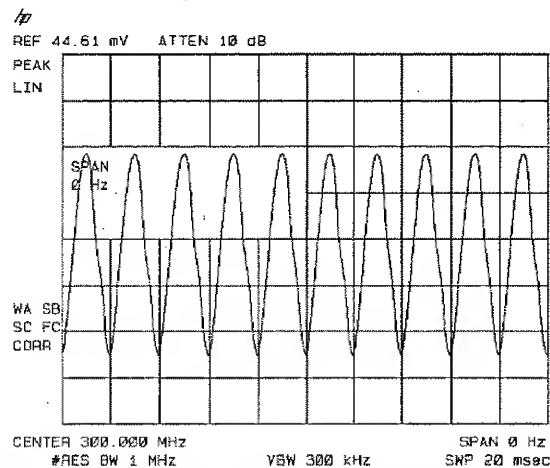

Figure 3-27. Measuring Modulation In Zero Span
5. To select zero span, either press **[SPAN]**, **0 [Hz]** or press **ZERO SPAN**. See Figure 3-27. If the modulation is a steady tone (for example, from a signal generator), use video trigger to trigger on the waveform and stabilize the display. Adjust the sweep time to change the horizontal scale.